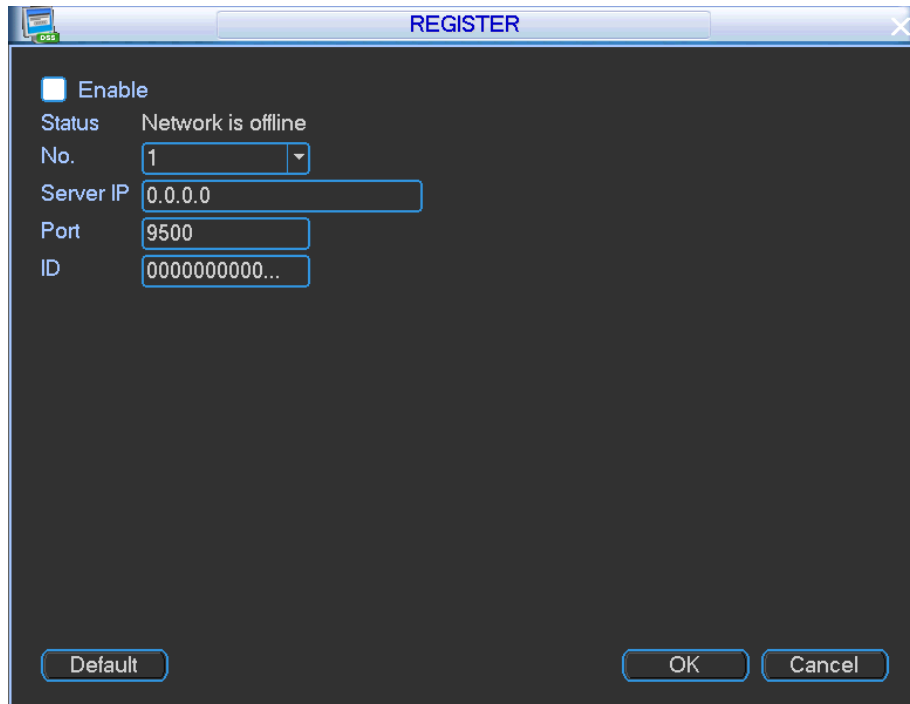

Figure 5-4
Step 1 On the main menu, from Vehicle->Register, Enter Register interface. See Figure 5-4.